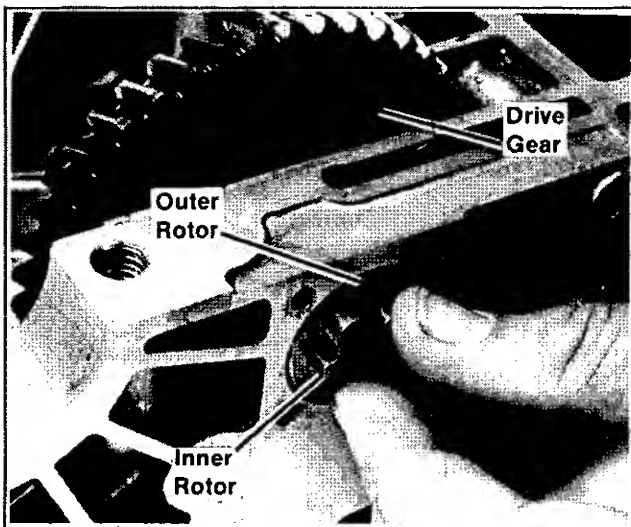

Figure 7-19. Removing Oil Pump Rotors (Early design crankcase shown).
1. Unscrew the four small capscrews that hold the pump cover to the #1 side of the crankcase, then remove the cover and the inner and outer pump rotors. See Figures 7-19 and 5-5.